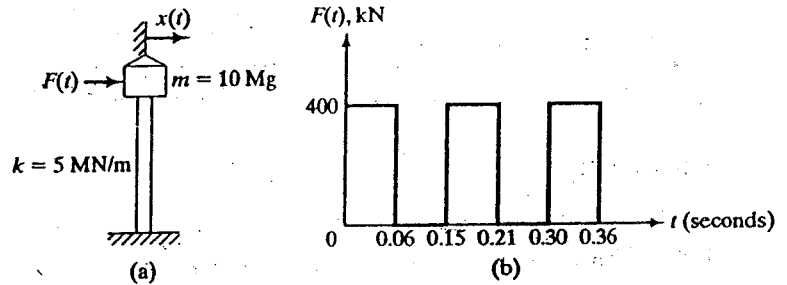

FIGURE 4.35
4.14 Find the displacement of the water tank shown in Fig. 4.35(a) under the periodic force shown in Fig. 4.35(b) by treating it as an undamped single degree of freedom system.